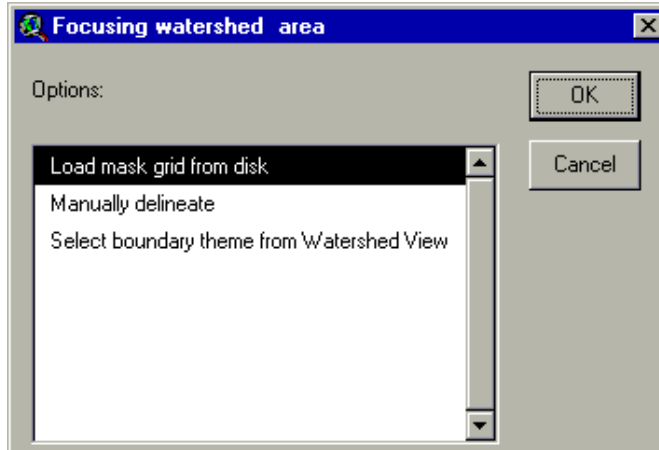

Figure 15.16
- a. On the Watershed Delineation dialog box, check the box next to **Focusing watershed area option**. A check will appear in the box **Focusing watershed area option** and a prompt box will open (Figure 15.16).